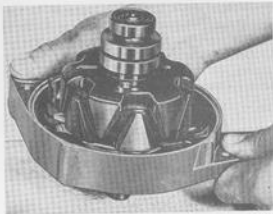

Fig. 3-8. Removing drive end shield
7. Release the three screws holding the support plate of the drive end bearing. Release the bearing by knocking the end of the shaft against a piece of wood, see Fig. 3-8.